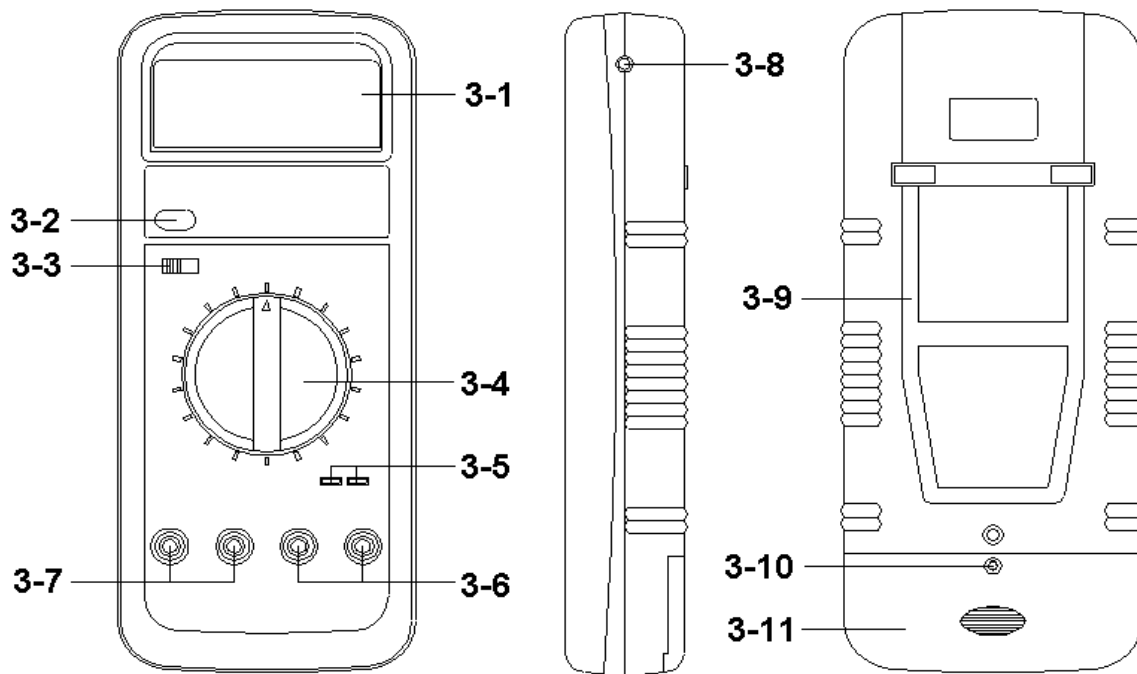

Fig. 1
- 1) Slide the " LC/R select switch " ( 3-3, Fig. 1 ) to the " LC " position.
- 4) Insert the tested inductor into socket " L/C Measuring input terminal 1 " ( 3-5, Fig. 1 ). Alternatively, connect the inductor to " L/C Measuring input terminal 2 " ( 3-6, Fig. 1 ). via using the measuring alligators supplied .
- 5) Insert the tested capacitor into socket " L/C Measuring input terminal 1 " ( 3-5, Fig. 1 ). Alternatively, connect the capacitor to " L/C Measuring input terminal 2 " ( 3-6, Fig. 1 ) via using the measuring alligators supplied .
- 1) Slide the " LC/R select switch " ( 3-3, Fig. 1 ) to the " R " position.
- 3) Connect the tested resistor into socket " Resistance Measuring input terminal " ( 3-6, Fig. 1 ) via using the measuring alligators supplied .
- 3) Connect Red alligator to " + " socket of " Diode Measuring terminal " ( 3-7, Fig. 1 ).
- 4) Connect Black alligator to " - " socket of " Diode Measuring terminal " ( 3-7, Fig. 1 ).
The instrument has RS232 PC serial interface via a 3.5 mm terminal ( 3-8, Fig. 1 ).
- 2)To replace the battery, loss the " battery cover screw " ( 3-10, Fig. 1 ) slide the battery cover ( 3-11, Fig 1 ) always from the meter and remove the battery